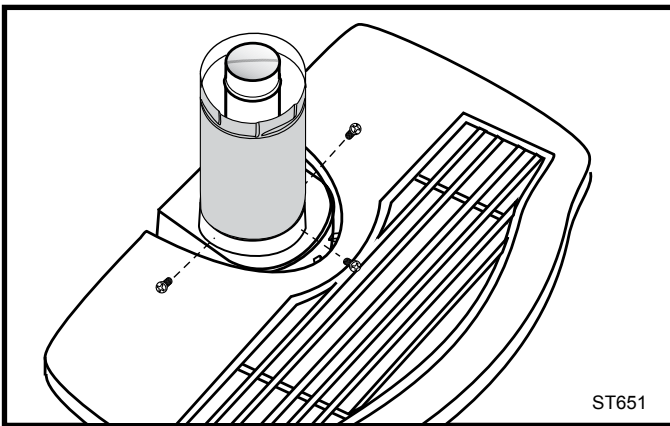

Fig. 23 DuraVent - install outer adapter pipe.
- 2. Install the Outer Adapter Pipe.** Orient the vertical seam to the rear, and insert the crimped end of the outer pipe into the flue collar. Fasten with three sheet metal screws provided. (Fig. 23)